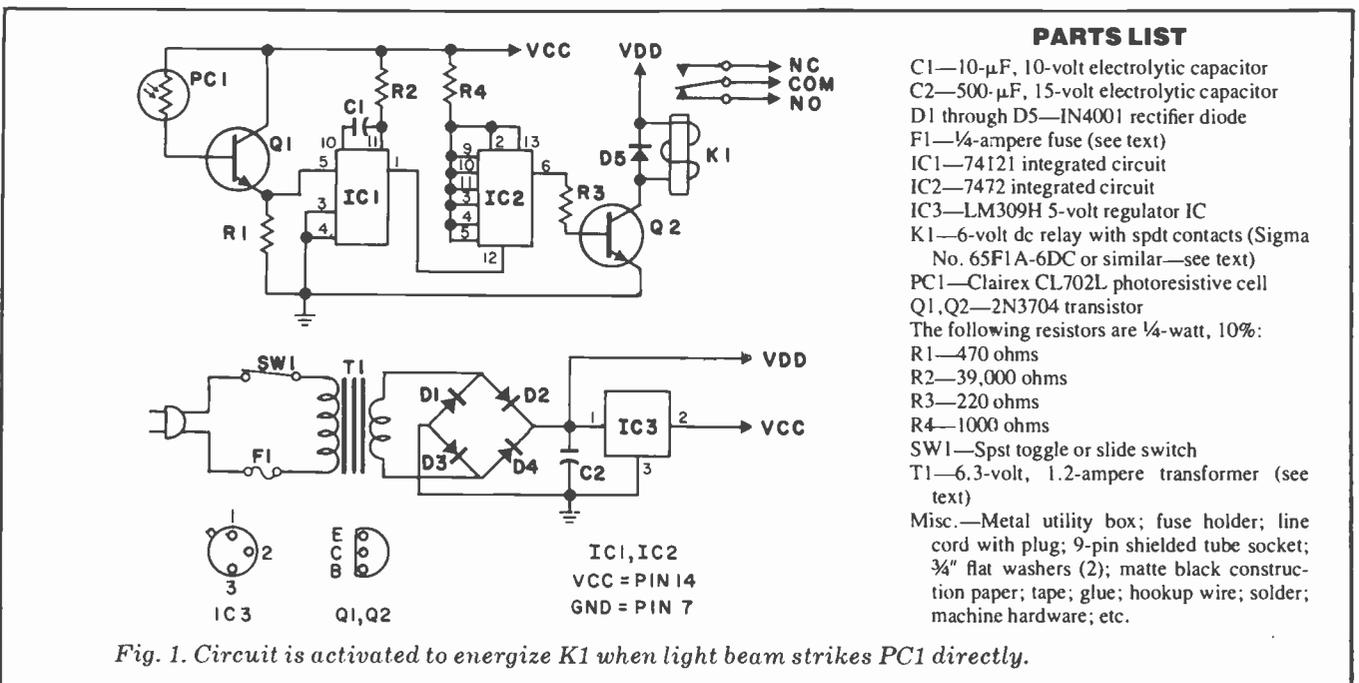

Fig. 1. Circuit is activated to energize K1 when light beam strikes PC1 directly.
**Circuit Operation.** The schematic diagram of the Genie is shown in Fig. 1. A light shield is used to prevent random ambient light from striking the photocell, PC1. The latter provides base bias for emitter follower Q1. Small, relatively constant amounts of light only vary the quiescent operating point of the circuit.
The power supply is also shown in Fig. 1. It provides power for the relay and regulated 5 volts, through *IC3*, to operate the logic.